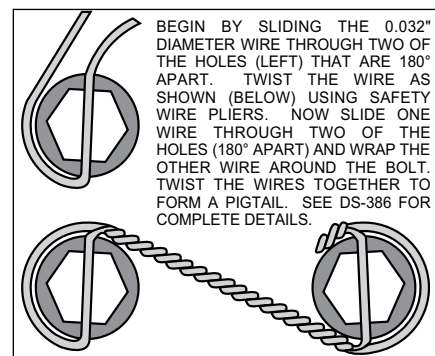

Figure 3. Safety Wire Diagram
- With the larger I.D. side of the rotor (3) facing away from the hat (4), bolt rotor (3) to hat (4) through the backside of the rotor using washers (5) and bolts (6). Apply red *Loctite*® 271 to the bolt threads and torque to 155 **in-lb** using a criss-cross pattern. For an added measure of security, the bolts may be safety wired using standard 0.032 inch diameter stainless steel safety wire as shown in Figure 3. Please refer to Wilwood's data sheet DS-386 (available at www.wilwood.com/Pdf/DataSheets/ds386.pdf) for complete safety wire installation instructions. Slide the rotor/hat assembly onto the spindle. Install a couple of lug nuts (hand tighten) to keep the rotor/hat assembly in place while continuing with the installation.